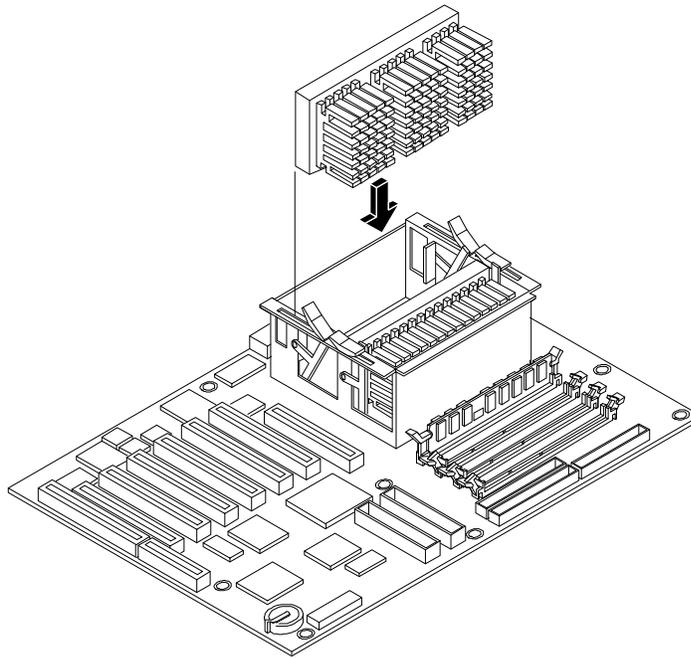

Figure 7-3. Installing the Processor Module on the System Board
1. Locate the processor cage on the system board (see Figure 7-3).
2. Align the second processor module over the secondary processor module slot so that the heat sink faces the same direction as the processor module already installed (see Figure 7-3).